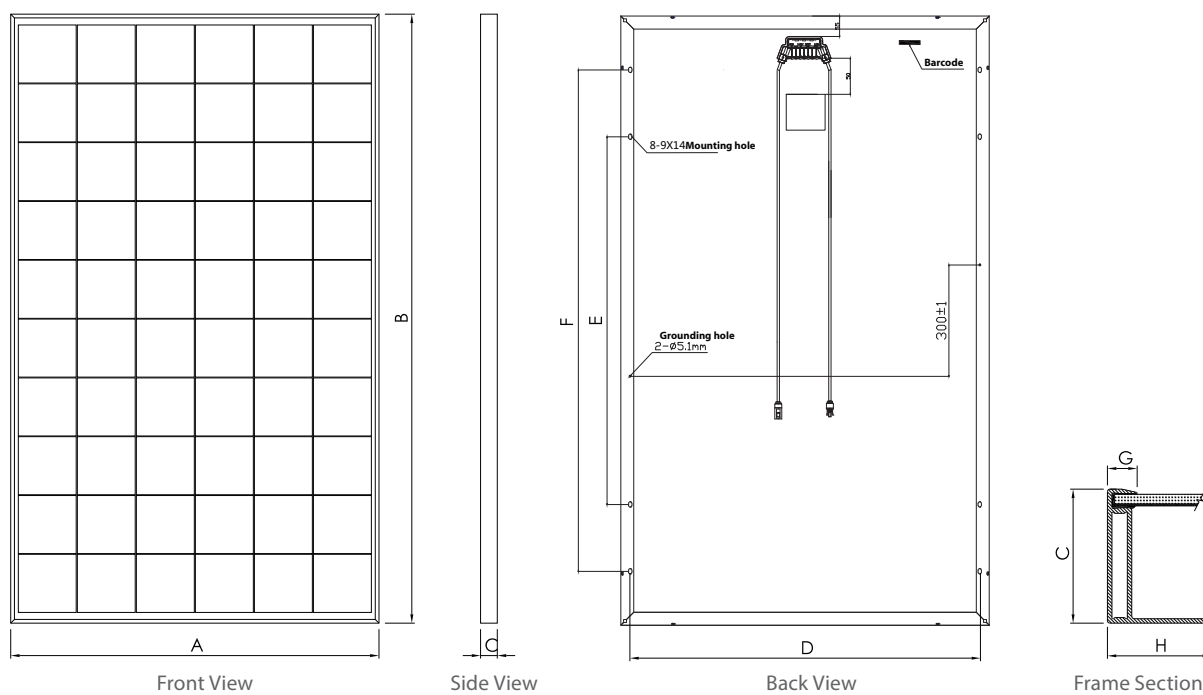

Figure 5
- Module Structure (as shown in Figure 5)